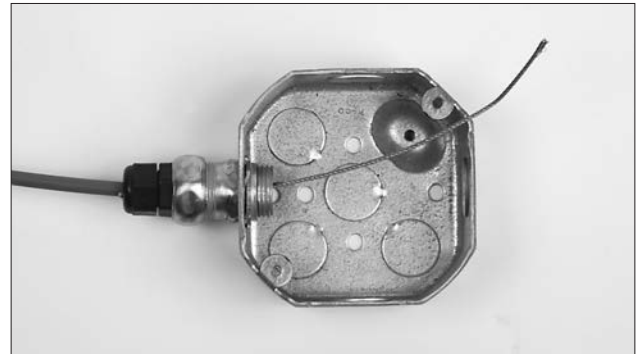

FIGURE 5-70
- The flexible conduit and wire rope should be connected to the electrical box as described in "Connecting the Flexible Conduit to the AUTOMAN Release, Electrical Box, or Mechanical Gas Valve." See Figure 5-70.